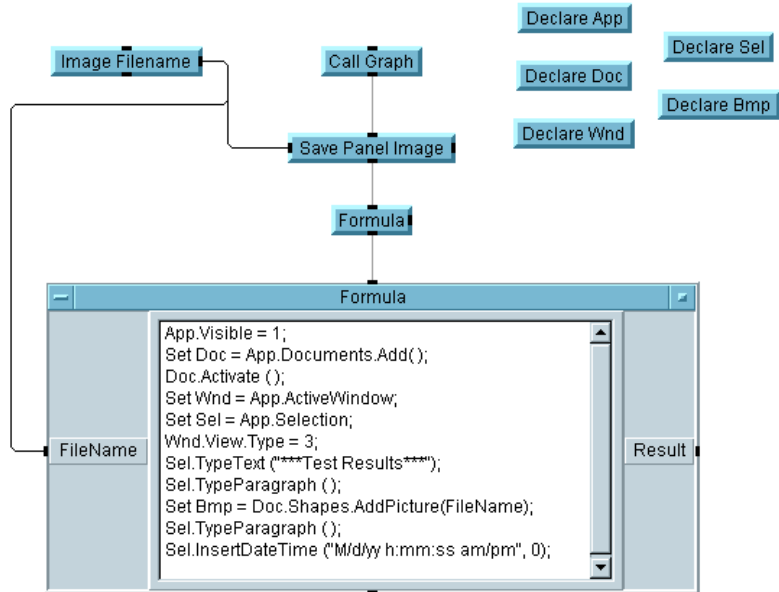

Figure 161 Adding the ActiveX Statements
- 8 Click **Device** ⇒ **Formula** and enter the statements shown in Figure 161, which are also described below. Rename input terminal **A** to **FileName**. Connect the data input and sequence input pins as shown in Figure 161.
In Figure 161, notice that you can nest property and method calls together with the Object’s dot notation. Refer to ActiveX documentation to find the right properties in the target applications. You can use the properties and methods described in this chapter to begin generating test and measurement reports. The entries in the Formula object are as follows: